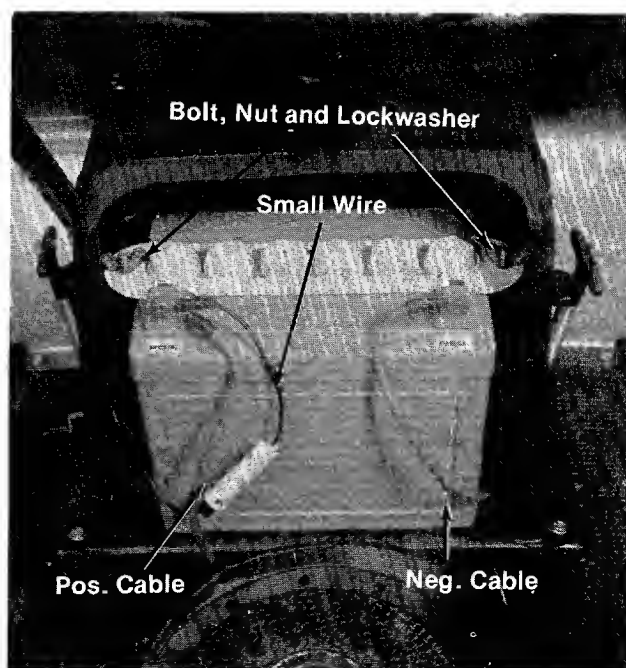

Figure 4.
3. Secure the hold down with the wing nuts and washers. Tighten hand tight. (See figure 4.)
4. Attach the positive cable (from the starter switch) and the small wire (from the ammeter) to the positive battery terminal with the bolt, lockwasher and nut in the assembly pack. (See figure 4.)